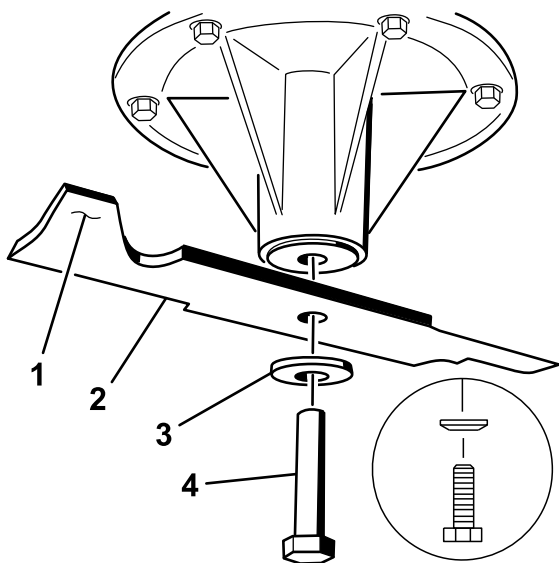

Figure 79
1. Install the blade onto the spindle shaft (Figure 79).
2. Install the spring disk and blade bolt (Figure 79).
**Note:** The spring-disk cone must be installed toward the bolt head (Figure 79).